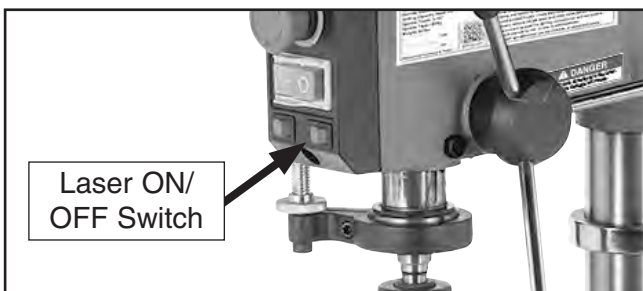

Figure 33. Location of laser ON/OFF switch.
6. Connect drill press to power. Turn laser **ON** using switch on front of drill press (see **Figure 33**).